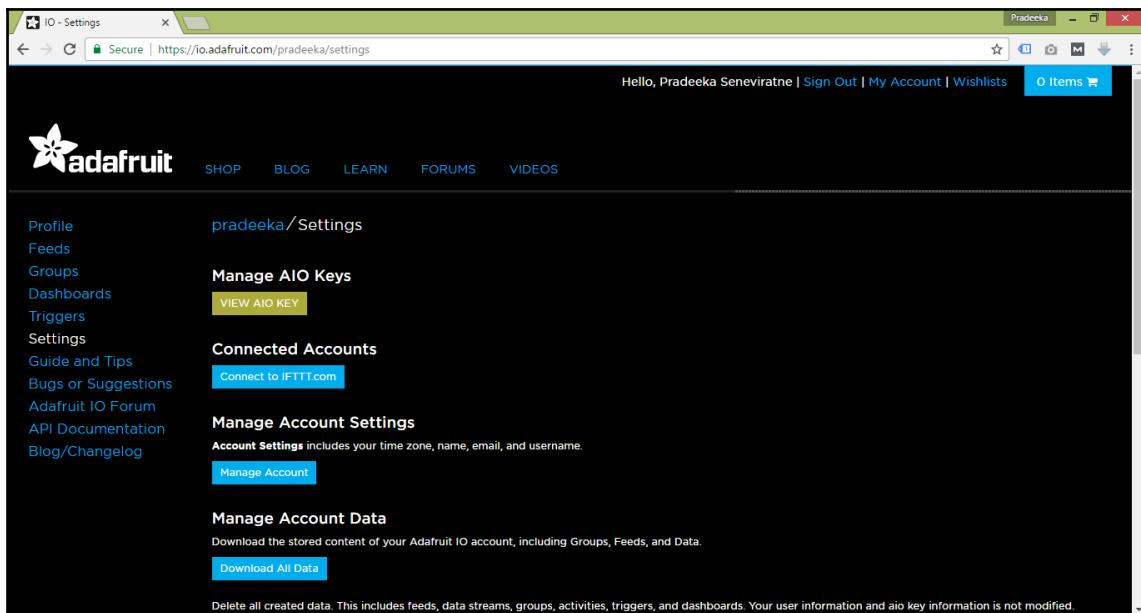

Figure 4-2: Adafruit IO settings page
1. In the left navigation bar of the dashboards page, click the Settings menu. You will navigate to the Settings page with a set of settings associated with your Adafruit IO account, as shown in Figure 4-2: